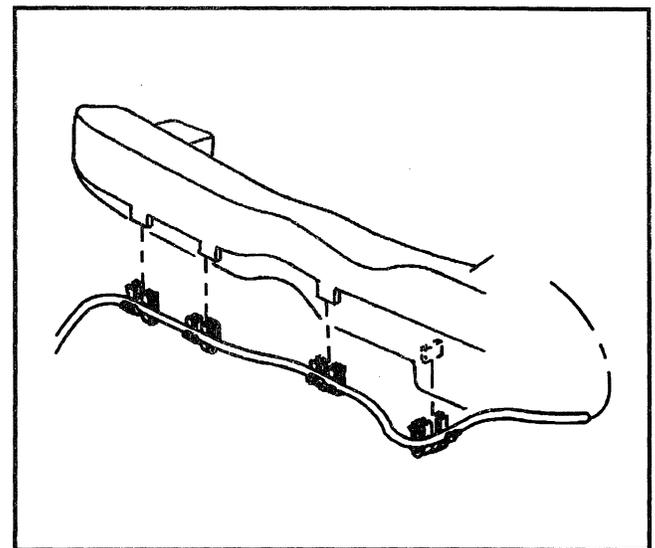

Figure 21—Antenna Extension Cable Routing to HVAC Duct
3. Extension cable from HVAC duct (Figure 21).
2. Extension cable to HVAC duct (Figure 21).